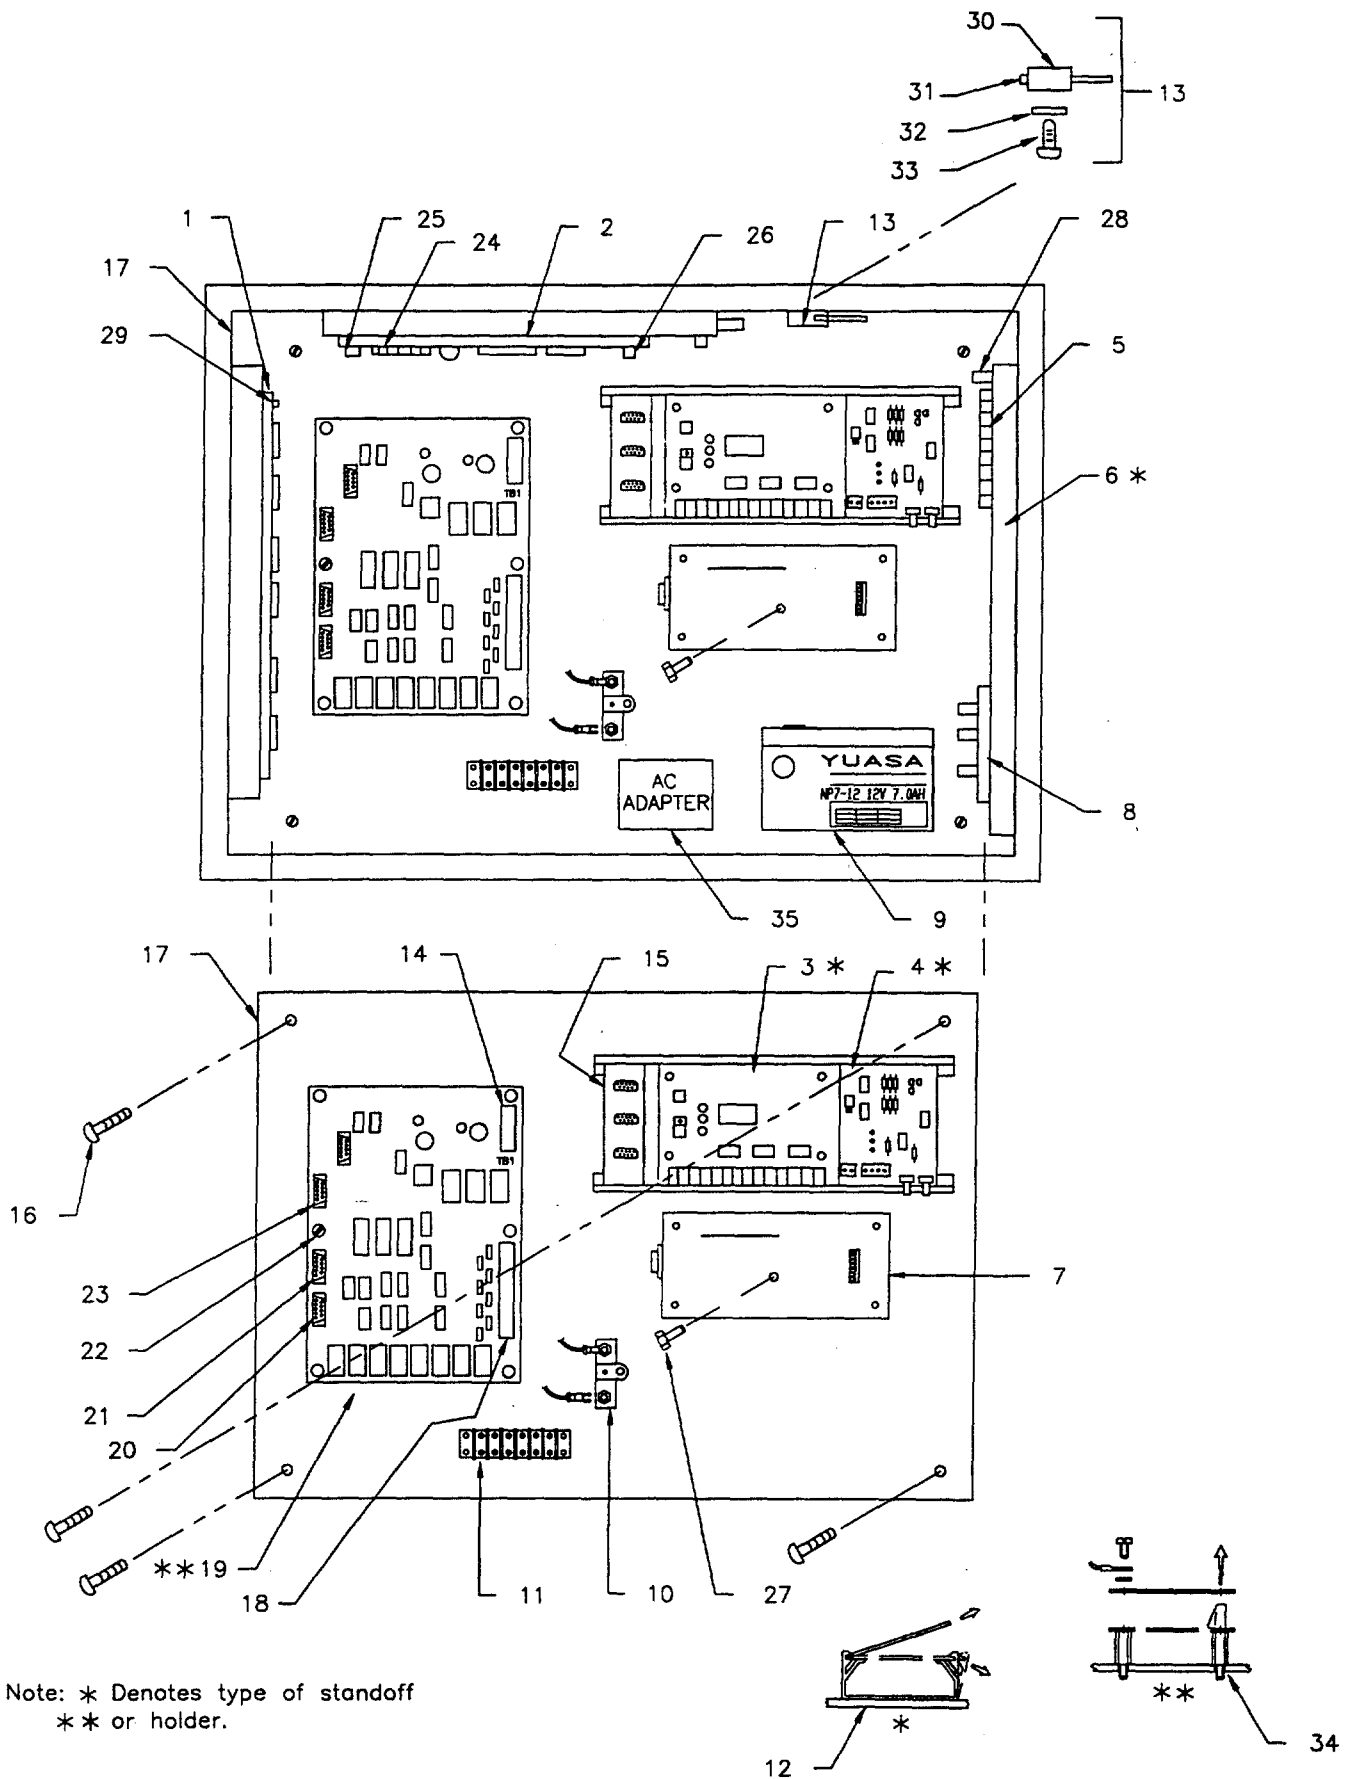

Figure 3-38. Removal and Replacement of interior RADC Assemblies
- (1) Set link settings and/or switch settings exactly the same as removed PWA or refer to Appendix E, page E-52.
- (2) Press out on sides of snap track PWA holder (12) and install Mod II Modem PWA (3) in snap track alignment slots.
- (3) Connect the tagged wires to J1 and J2.
- (4) Connect the black wire slip-on terminal lug to negative terminal of 12 vdc battery (9).
- (5) Connect AC adapter to power source.
- (6) Place front access cover on enclosure and secure it.
**3-43. REPLACE LEDA FLEX TERMINATION CARD ASSEMBLY. (Interior)** (Figure 3-38 and FO-4).**This task consists of:****a. Remove****b. Install****INITIAL SETUP:****Tools:**
- (1) Set link settings and/or switch settings exactly the same as removed PWA or refer to Appendix E, page E-46.
- (2) Press out on sides of snap track (12) PWA holder and install PWA (1) in snap track alignment slots.
- (3) Connect ribbon cable to connector PL1 (29).
- (4) Connect tagged wires to TB1 through TB8 (FO-4 sheet 4).
**3-44. REPLACE 12 V BATTERY. (Interior)** (Figure 3-38).
- (1) Place 12 v battery (9) in enclosure.
- (2) Connect red and black slip-on terminal lugs to positive and negative terminals of 12 v battery.
- (3) Connect AC adapter to power source.
- (4) Place front access cover on enclosure and secure it.
**3-45. REPLACE TAMPER SWITCH.(Interior)** (see Figure 3-38).
- (1) Align Tamper Switch up with enclosure mount (13) and secure with two screws (33) and flat washers (32).
- (2) Connect the tagged slip on connectors (31) to Tamper Switch (30).
- (4) Replace enclosure cover and secure.
**3-46. REPLACE 20 VDC POWER SUPPLY.** (See Figure 3-38).